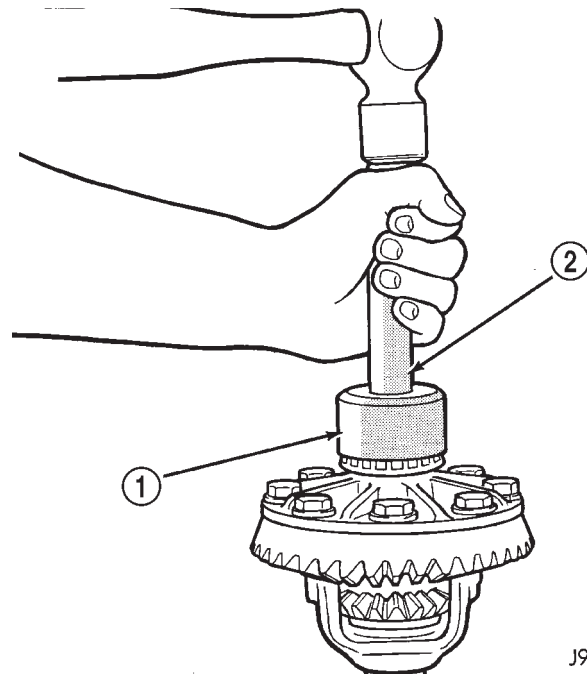

Fig. 36 Differential Side Bearing Installation
- (1) Install differential side bearing shims onto differential case hubs, for 186FBI axles.
- (2) Using Installer C-3716-A and Handle C-4171, install differential side bearings (Fig. 36).
- (3) Install differential in axle housing.